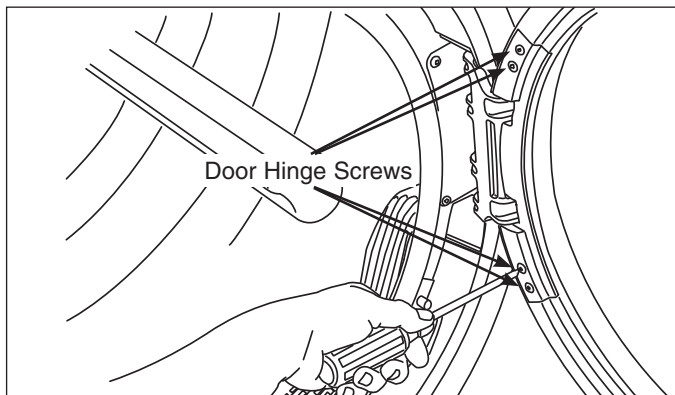

Figure 4-3.
2. Using a #2 square bit screwdriver, extract the four long, course thread, countersunk hinge screws from door. (See Figure 4-3)